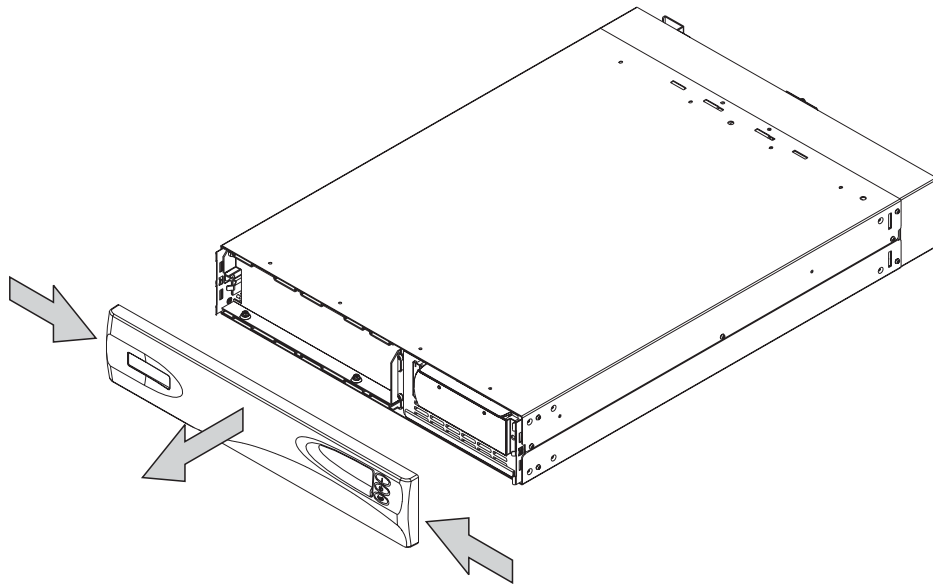

Figure 114. Removing the uninterruptible power supply front panel
2. Remove the front panel by pressing the sides inward, then pulling on both ends (Figure 114 on page 200).